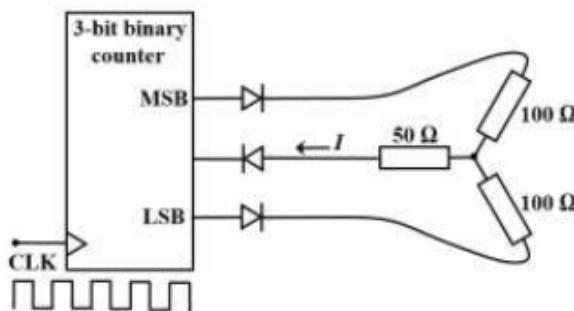

Fig. 5.6
6. For the 3-bit binary counter shown in Fig. 5.6, the output increments at every positive transition in the clock (CLK). Assume ideal diodes and the starting state of the counter as 000. If output high is 1V and output low is 0V, the current I (in mA) flowing through the 50Ω resistor during the 5th clock cycle is (up to one decimal place) (GATE IN 2018)